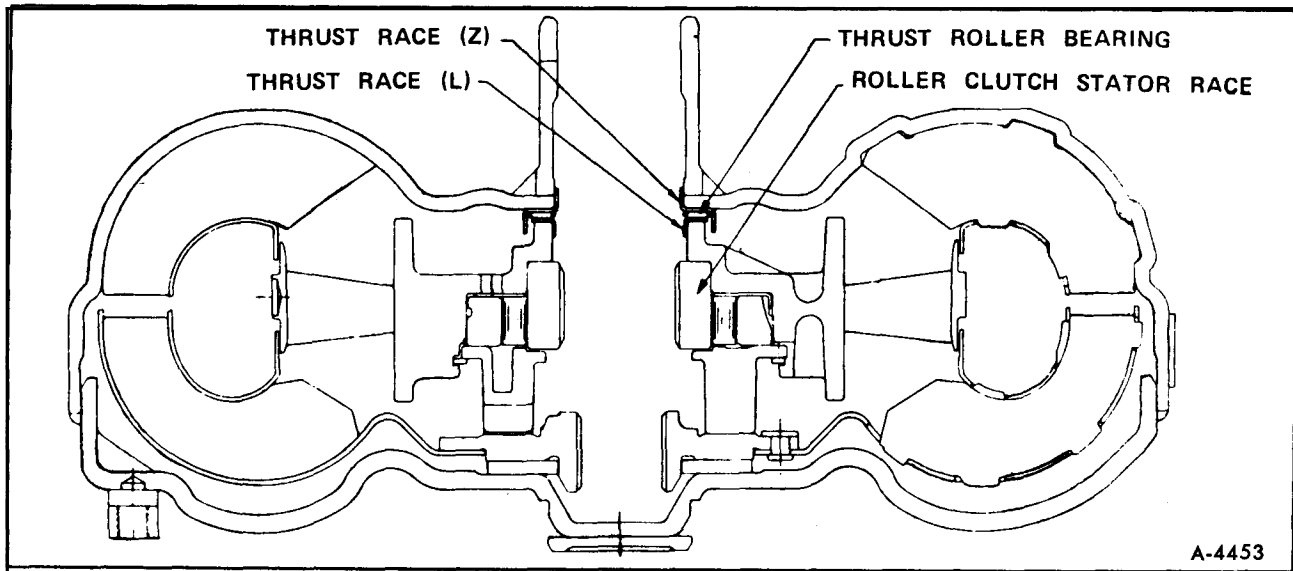

Figure 110—Converter Assembly - Cross Section
7. Check the converter internally for damage to its roller bearings, thrust races, and the roller clutch, Figure 110.